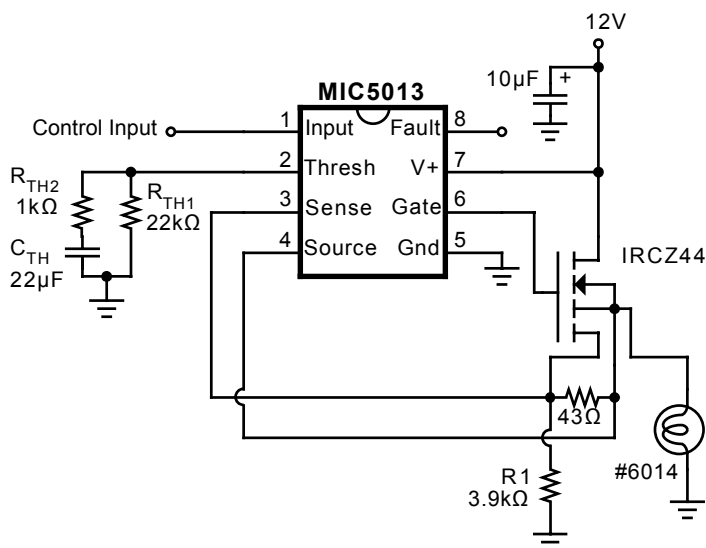

Figure 5. Time-Variable Trip Threshold
**High-Side Driver with Current Sensing MOSFET** (Figure 5). The design starts by determining the value of “S” and “R” for the MOSFET (use the guidelines described for the low-side version). Let  $V_{TRIP} = 100mV$ , and calculate  $R_S$  for a desired trip current. Next calculate  $R_{TH}$  and R1. The trip point is somewhat reduced when the output is at ground as the voltage drop across R1 is zero. No clamping is required for inductive loads, but may be added to reduce power dissipation in the MOSFET.
The MIC5013 over-current shutdown circuit is designed to handle this situation by varying the trip point with time (see Figure 5).  $R_{TH1}$  functions in the conventional manner, providing a current limit of approximately twice that required by the lamp.  $R_{TH2}$  acts to increase the current limit at turn-on to approximately 10 times the steady-state lamp current. The high initial trip point decays away according to a 20ms time constant contributed by  $C_{TH}$ .  $R_{TH2}$  could be eliminated with  $C_{TH}$  working against the internal 1kΩ resistor, but this results in a very high over-current threshold. As a rule of thumb design the over-current circuitry in the conventional manner, then add the  $R_{TH2}/C_{TH}$  network to allow for lamp start-up. Let  $R_{TH2} = (R_{TH1} \div 10) - 1k\Omega$ , and choose a capacitor that provides the desired time constant working against  $R_{TH2}$  and the internal 1kΩ resistor.